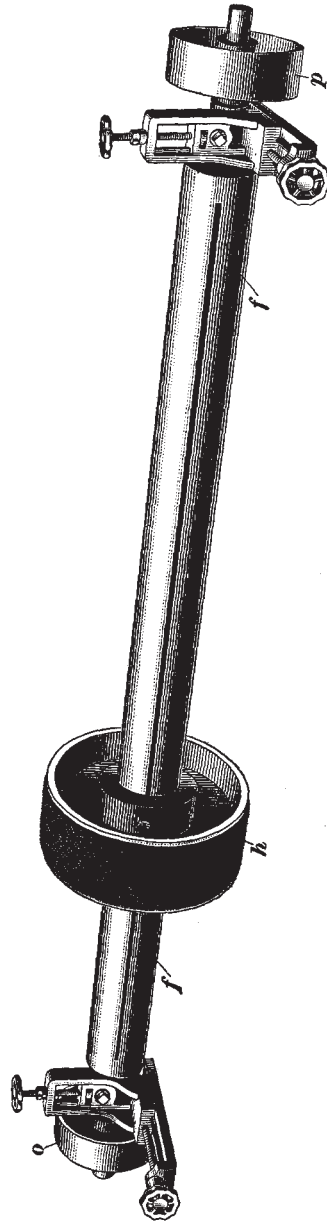

FIG. 8
26. The main cylinder and doffer should be ground at the same time and without being removed from the card, which may be accomplished by means of a **traverse grinder**; the one shown in Fig. 8 is known as the Roy traverse grinder.
27. Speed.—The traversing pulley p , Figs. 8 and 9, should always be driven more slowly than the driving pulley o , both being driven in the same direction, there would be no traverse of the grinding wheel if the speeds of both pulleys were equal. The revolutions of the bevel gear e that drives the traverse chain is equal to the revolutions of the driving pulley o minus the revolutions of the traversing pulley p . In order to make the grinding wheel traverse faster, the speed of the traversing pulley is reduced.
29. Operation.—The method of grinding the main cylinder and doffer at the same time by means of the traverse grinder just described is as follows: Referring to Fig. 8, it will be seen that the journals of the shell are carried in adjustable bearings, which may be moved in two directions by means of screws provided with hand wheels, allowing the grinding roll to be set both to the main cylinder and also to the doffer. The doffer, however, is usually set